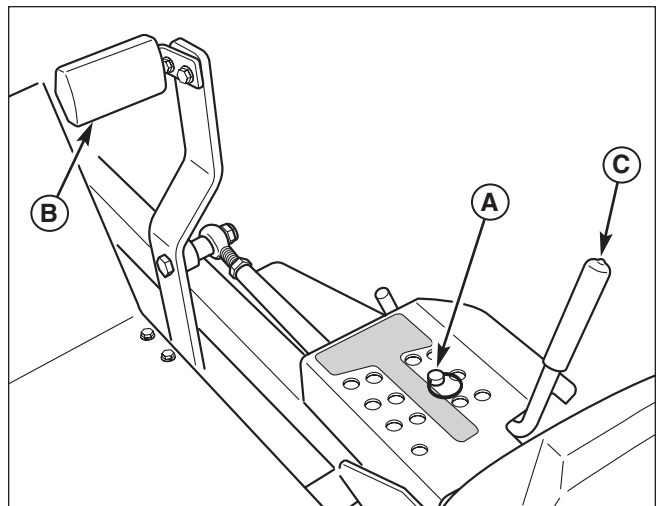

**Figure 33. Neutral Adjustment (RH side shown)**
2. There are three nuts (B, Figure 33) on the linkage rod. The first two are to be used together to turn the rod and the third (towards the front of the machine) is used to lock the rod in place. Loosen the jam nut that locks against the ball joint (B, Figure 33) and turn the linkage rod (A) to adjust. If the machine creeps forward, turn the rod CLOCKWISE (while standing at the rear of the machine, facing forward), if the machine creeps backward, turn the rod COUNTER-CLOCKWISE.
3. Lock the jam nut (B) against the ball joint when neutral is achieved.